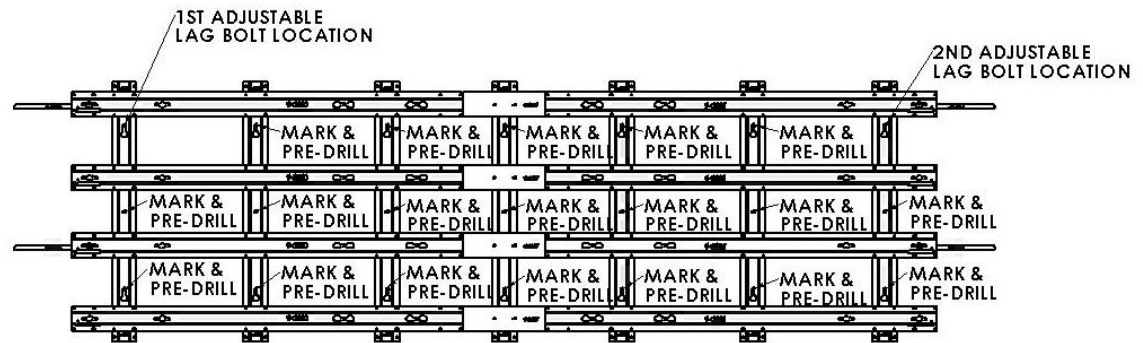
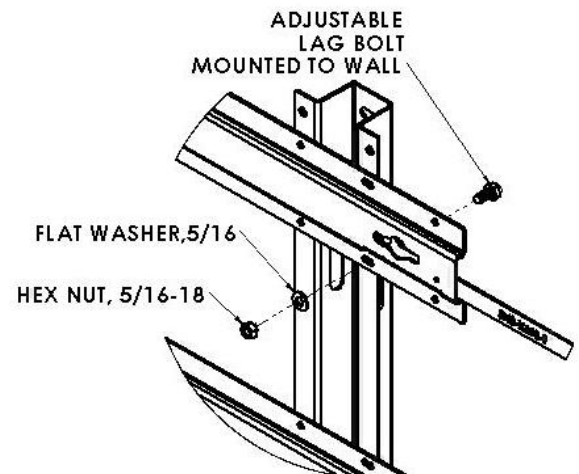

Figure 2
Figure 3
Use the frame as a template to mark the other locations of the adjustable lag bolts. Use three (3) per vertical channel, two keyholes and the center hole (**Figure 2**).
the hex part of the bolt is flush to the wall (**Figure 2**). Hang the upper frame onto the adjustable lag bolts mounted on the wall. Install hex nut and flat washer then snugly tighten hex nuts. **DO NOT TIGHTEN** permanently until the entire video frame is installed and adjusted (**Figure 3**).
Mark the locations of the adjustable lag bolts for the lower frame. Three per V-Channels (**Figure 2**). Detach the lower frame from the top frame by unscrewing the screws on the Vertical joiner plate then place lower frame back on the floor.